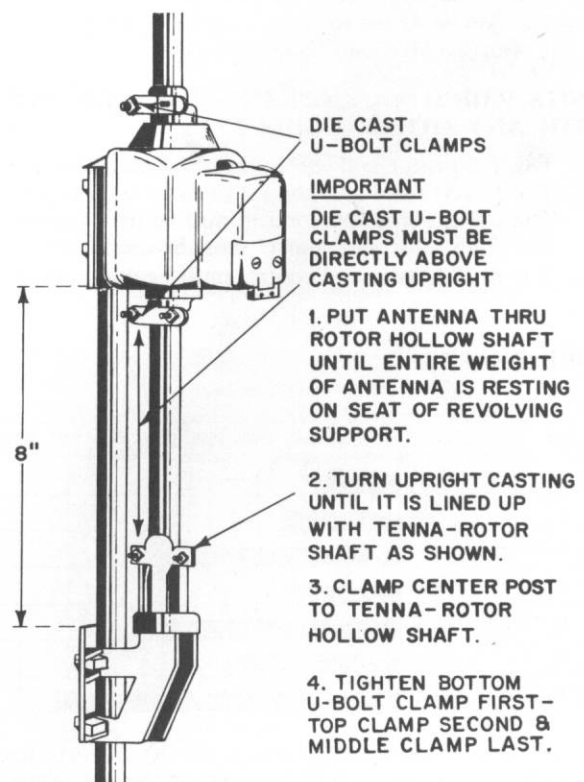

Fig. 3. Proper Installation Using Thrust Bracket.
2. For antenna installations in windy areas, and for installations consisting of more than two bays, it is advisable to use the Alliance Thrust Bracket (Fig. 3).